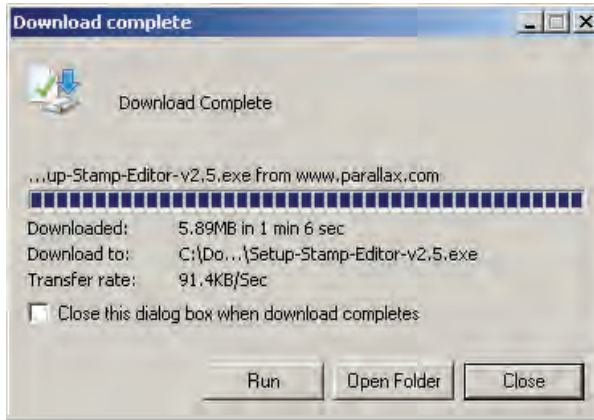

Figure 1-12
- ✓ When you see “Download Complete,” click the Run button (Figure 1-12.)